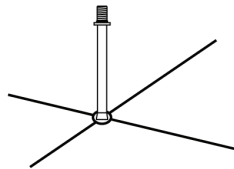

Figure.2
5. Pre-install the 8 expansion bolts (M12*80) with 140 N•m. (Figure.2)